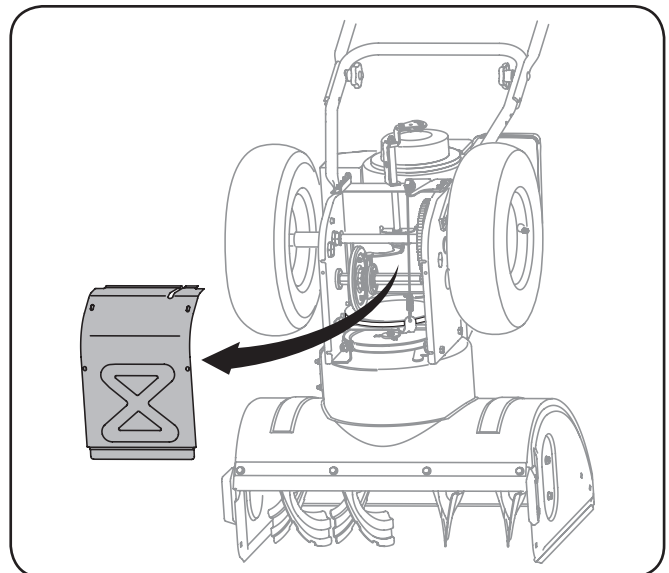

Fig. 7-4
3. Remove the frame cover from the underside of the snow thrower by removing the self-tapping screws which secure it. Refer to Fig 7-4.
6. Remove the frame cover from the underside of the snow thrower by removing the self-tapping screws which secure it. See Fig. 7-4.
5. Remove the frame cover from the underside of the snow thrower by removing the self-tapping screws which secure it. Refer to Fig. 7-4.